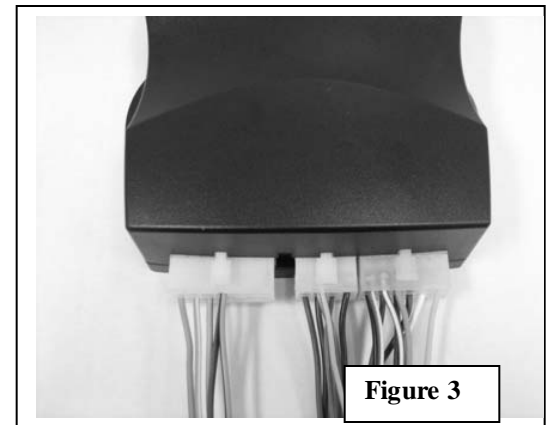

Figure 3
- ⚠ 2. Plug in the **Main Wiring Harness, Switch Harness, and Pedal Interface Harness** onto mating connectors of the Cruise Control Module. **Figure 3**